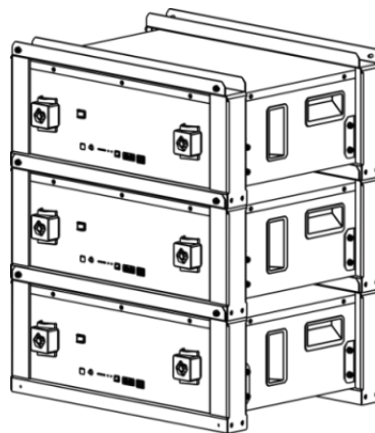

Figure 3-5
3. Install another module as the same method, don't tighten the screw first, put it on top of the first battery, as shown in figure3-5.